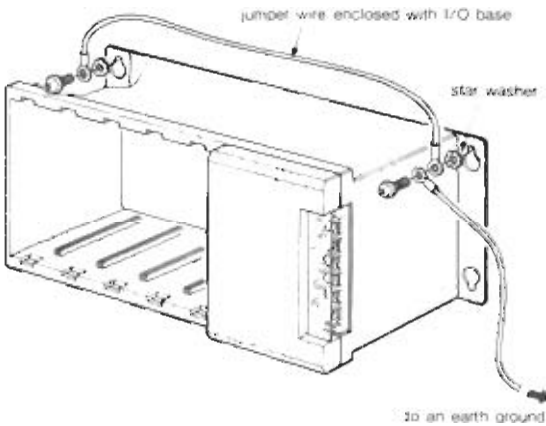

Figure 3.3 RECOMMENDED EXPANSION RACK GROUNDING
When inserting the 2 top bolts, attach the green jumper as shown in Figure 3.3. This jumper wire is packed with each rack and provides a method of grounding the rack when an earth ground is also connected to a mounting bracket.
- 18. Connect an earth ground wire to the rack mounting bracket as shown in Figure 3.3 (Typically this ground wire is the green wire from the ac power source)